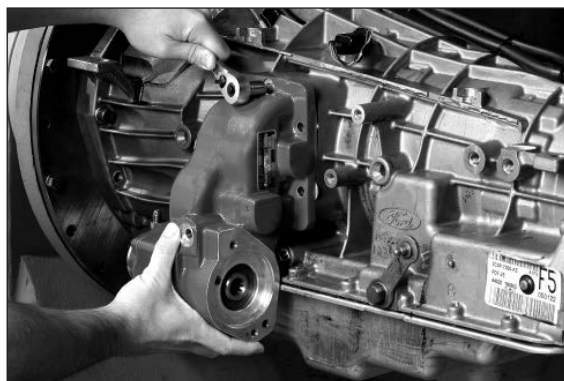

Figure 77
11. Attach the self-locking nut to the shoulder stud. **DO NOT** tighten down at this time (**Fig. 77**).